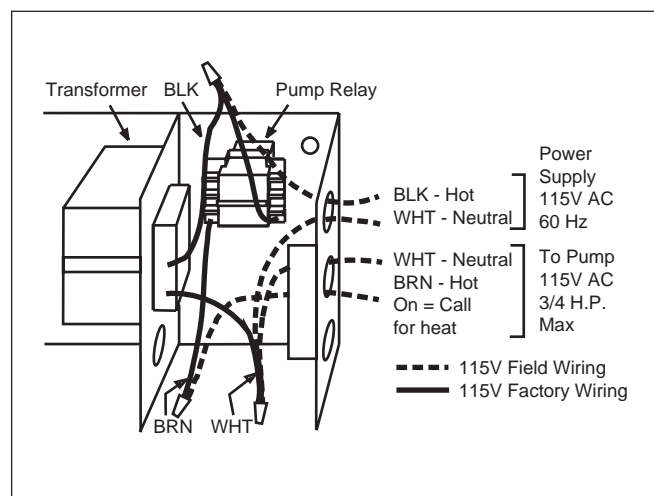

Figure 8. Field Wiring Connections.
2. There are four wires coiled in the area on the right side of the control box, supplied with wire nuts: 2 black wires twisted together, a white wire and a brown wire (see Figure 8).